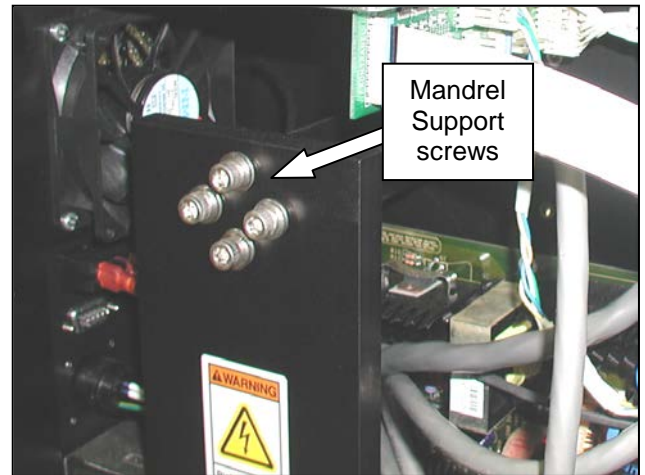

Figure 3-46. Mandrel Support screws
2. Remove the seven screws holding the Mandrel Support Plate, set screws and plate aside (Figure 3-46 & 3-47).